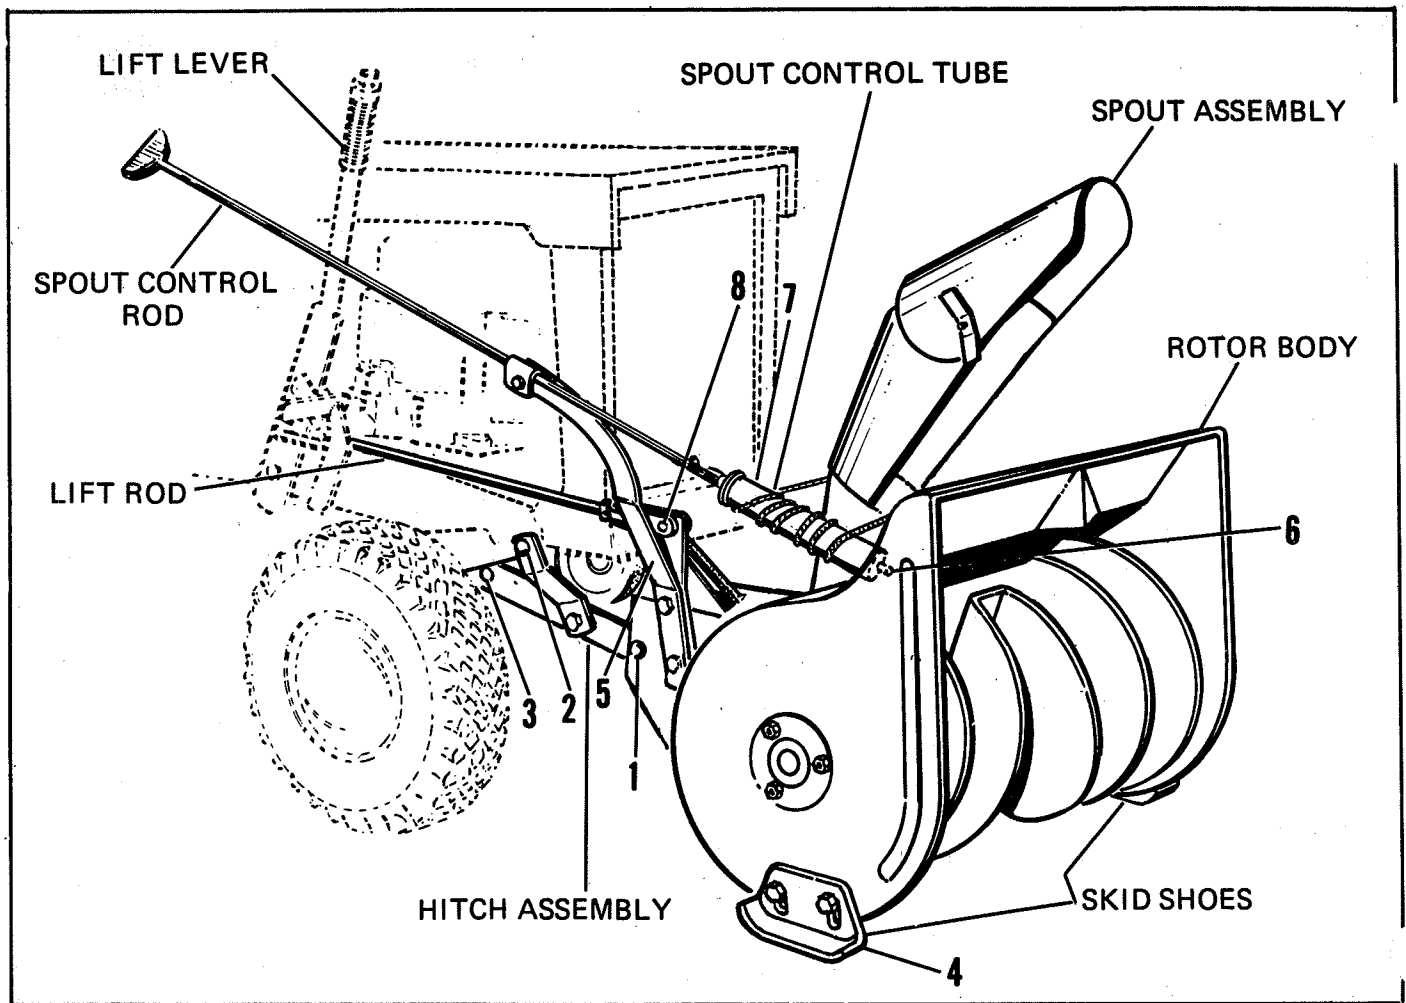
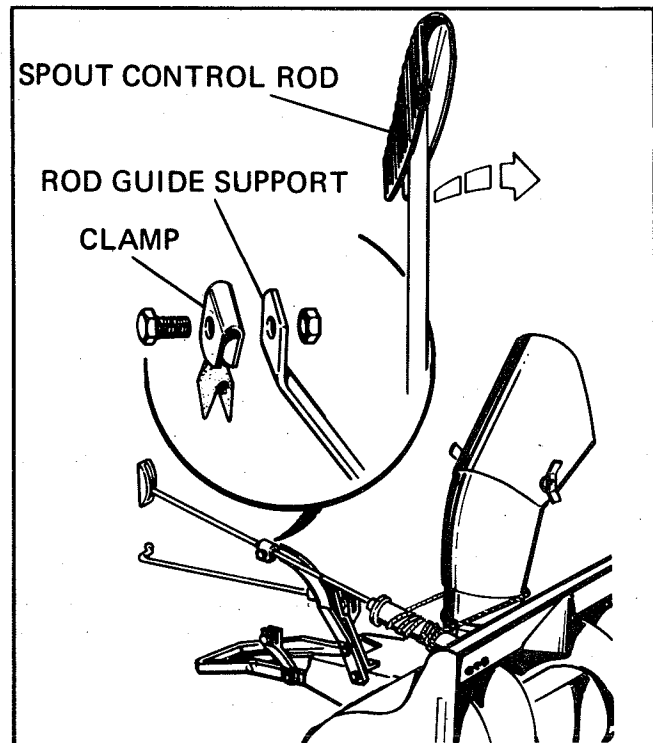

Figure 1.
Figure 4.
1. Attach the hitch assembly to rotor body assembly with the (2) pins and spring clips provided. See (1), Figure 1.
3. Place the hitch assembly under the front end of the tractor. The hitch is suspended beneath the tractor at points 2 and 3 as shown in Figure 1.
5. Attach the skid shoes to the body assembly using the 3/8"-16 x 3/4" carriage bolts, 3/8" plain washer, 3/8" lockwasher and 3/8"-16 full hex nuts as shown at (4), Figure 1.
7. Attach the spout control rod support bracket (5), Figure 1, with two 3/8"-16 x 1" long hex capscrews and 3/8" lockwashers and 3/8"-16 hex nuts.
8. Insert spout control tube into nylon bearing on body assembly (See (3), Figure 1) and secure in place with two 1/8" x 3/4" cotter pins. Insert the spout control rod in the spout control tube and secure with the 5/32" x 1" cotter pin.
9. Position discharge spout directly forward. Position control tube so the cable clamp faces the side of the spout. Provide 2-1/2 coils on top and 2-1/2 coils on the bottom. The end of the cable closest to operator passes under the tube. The end away from operator passes over the top of tube. See (7), Figure 1. In order to insure tightness of the spout cable, it is helpful to slant the control tube slightly inboard in relation to the rod guide support shown in Figure 4. Position the free ends of the cable around the spout and clamp securely with the cup washer, 5/16" lockwasher and 5/16"-18 full hex nut. Move the spout control rod back to the
10. Connect one end of the lift rod (8), Figure 1, to the lift bracket on the rotor housing, using a spring clip. The other end of the lift rod is connected to the lift lever on the tractor and is secured with a spring clip.